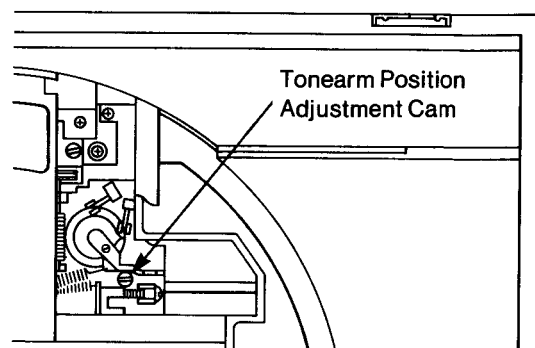

Fig. 3
3. Push the \triangleleft button on the control panel and move the tonearm to the place where the tonearm position adjustment cam can be observed. (Fig. 3)
4. Adjust the tonearm position adjustment cam, so that the tonearm faces perpendicular to the back wall of the cabinet. (Fig. 3)